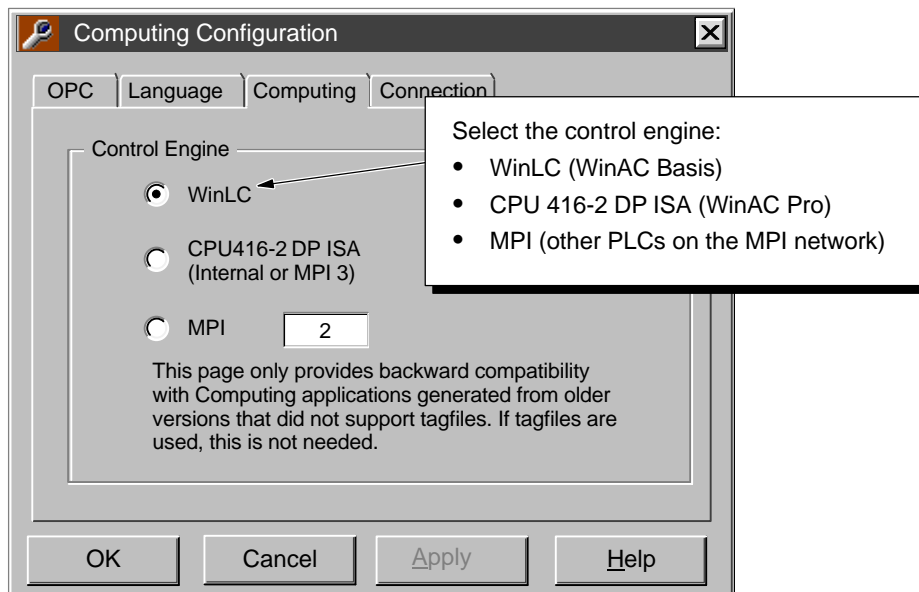

Figure D-3 Selecting the Control Engine
3. As shown in Figure D-3, select the control engine: